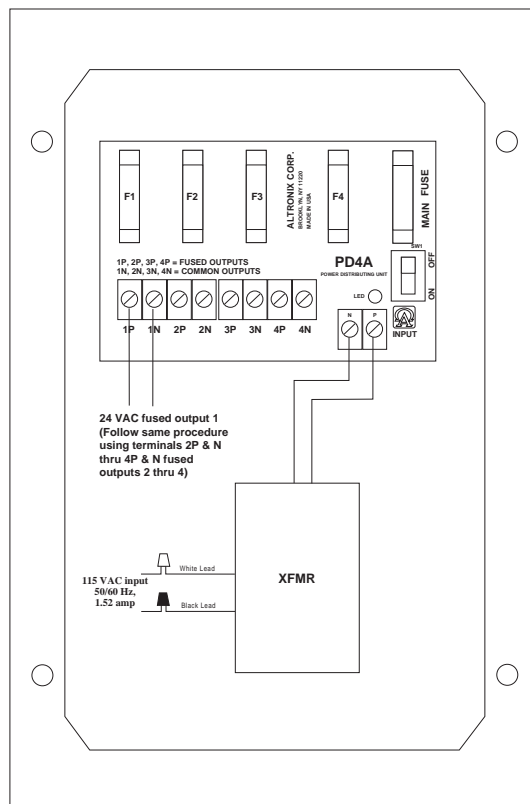

Fig. 1
- Four (4) individual fuse protected power limited outputs.
- Output fuses are rated at 3.5 amps / 250VAC (Fig. 1).
- Main fuse is rated at 10 amps / 250VAC (Fig. 1).
2. Slide switch SW1 (Fig. 1) to OFF position.
3. Connect the AC (115VAC 50/60 Hz) to the black and white flying leads of the transformer (Fig. 1).
4. Connect each camera to terminal pairs 1 to 4, marked [1P-1N thru 4P - 4N] (Fig. 1).
5. Slide switch SW1 (Fig. 1) to ON position.